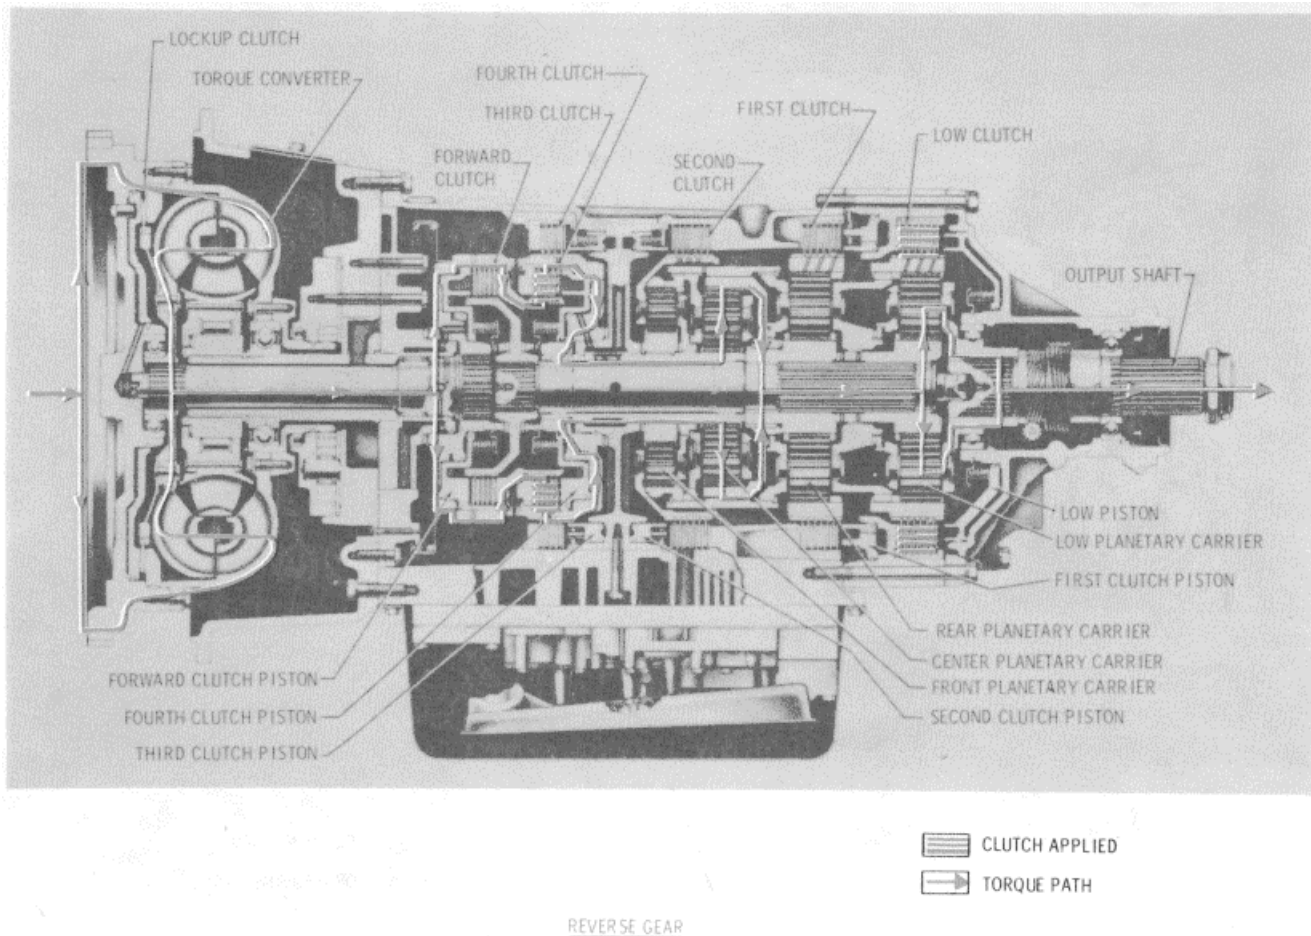

Fig. 2-14. Reverse-gear torque path
i. Reverse-Gear Operation (fig. 2-14). Engine torque is transmitted through the torque converter as described in a, above. Reverse gear is the only gear in which the forward clutch is not engaged. In this gear, the fourth clutch is applied and rotates the sun gear shaft, via the fourth-clutch housing, at input speed. The low clutch is also applied and anchors the low ring gear against rotation. In turn, the low ring gear, rear carrier, center carrier and connecting drum are splined